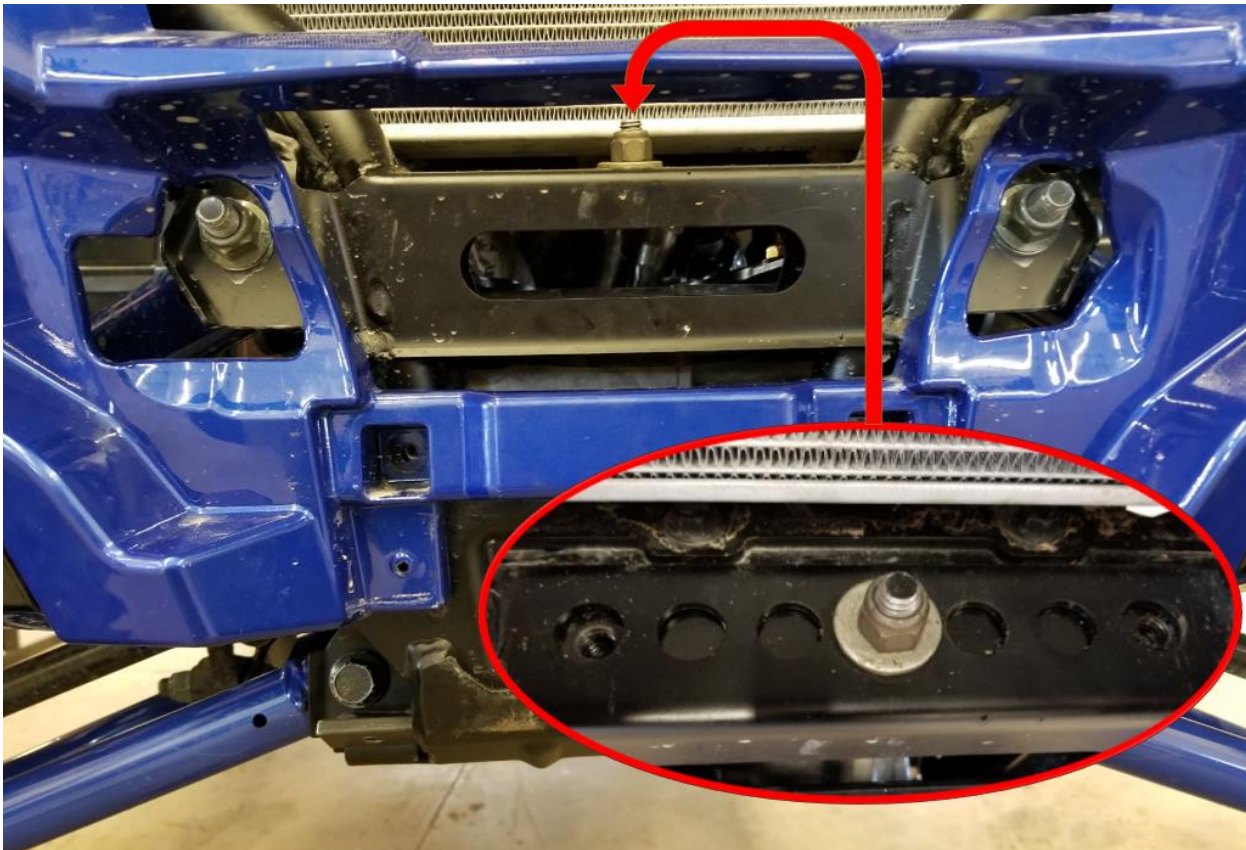

Figure 5
4. Install the Strap bracket to the frame of the RZR using the 3/8" Nylock Nut and Washer as shown in Figure 5. Note: Align the threaded holes with the two outside holes in the frame as shown.